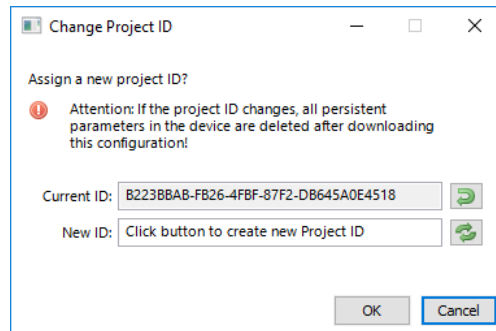

Figure 25: Change the project ID.
- **Project ID:** This button opens the project ID dialog as shown in Figure 25. The project ID uniquely identifies a data point configuration. If the project ID changes, all persistent values on the device are discarded and replaced by the new data point configuration. To force a new project ID open the dialog and click on the button  to generate a new ID. Then click **Ok** to accept the new project ID.